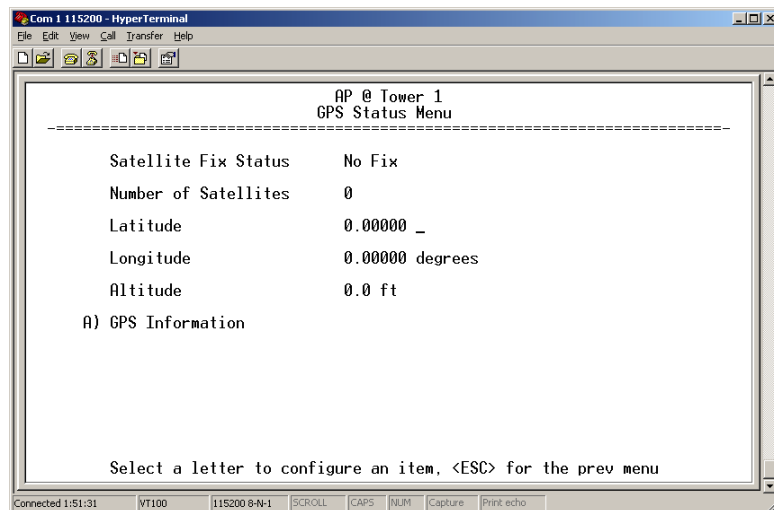

Figure 3-45. GPS Status Menu
- **GPS Status**—Shows satellite fix status, number of satellites being received, and unit location data. (See Figure 3-45 for details.)